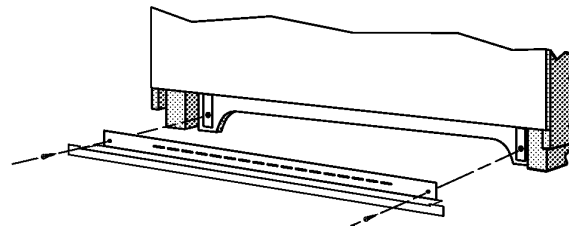

FIGURE 1
- Open oven door to the “Full Open” position (see Figure 1).
- Rotate hinge locking lever UP to the locked position to secure the oven door to the unit (see Figure 1).
NOTE: Make sure that hinge locking lever is rotated fully UP to the locked position as shown (see Figure 1) before closing oven door.
If hinge locking lever will not rotate fully UP to the locked position as shown (see Figure 1) then the hinge arm is not properly seated on the receiver. Rotate the hinge locking lever DOWN to the unlocked position (see Figure 2) and remove oven door as outlined in the Oven Door Removal procedure. Then replace the oven door as outlined in the Oven Door Replacement procedure, making sure that the hinge arm slots are fully seated on the horizontal pins in the hinge receiver.
- Once the hinge locking lever is rotated fully UP to the locked position (see Figure 1) close the oven door.
- See figure 1 for lower trim installation.